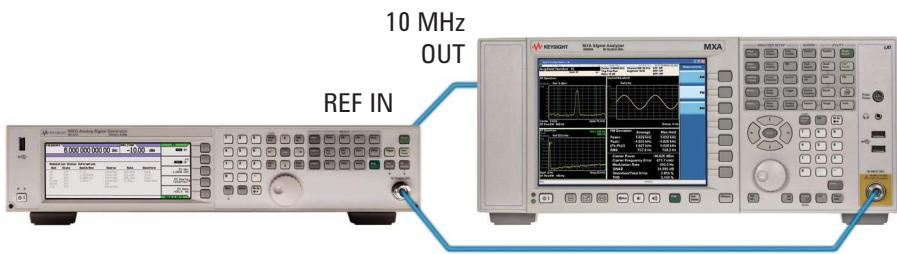

Figure 1. An example of demo configuration
Perform the following steps to interconnect the MXA and MXG (see Figure 1 for a graphical overview):
- A. Using a $50\ \Omega$ RF cable, connect the RF Output $50\ \Omega$ port on the MXG to the RF INPUT $50\ \Omega$ port on the X-Series signal analyzer as shown in Figure 1.
Make sure the RF signal and reference clock connections are as indicated in Figure 1. Note that we change the FM deviation and FM rate slightly during the demonstration.